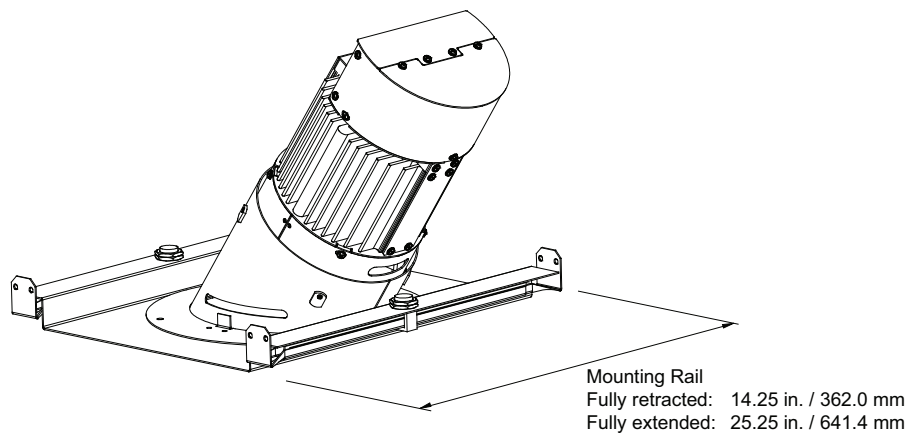

Figure 11: Sloped Ceiling Adapter Example
Note: See Figure 11 on page 11 for additional information.
- Step 2. Secure adapter to the joist work of structure using extension hanger arms (included with adapter tray). Ceiling or ceiling tiles are NOT to be used for support. Do not install luminaire into adapter at this time. Refer to Figure 11 for additional information.